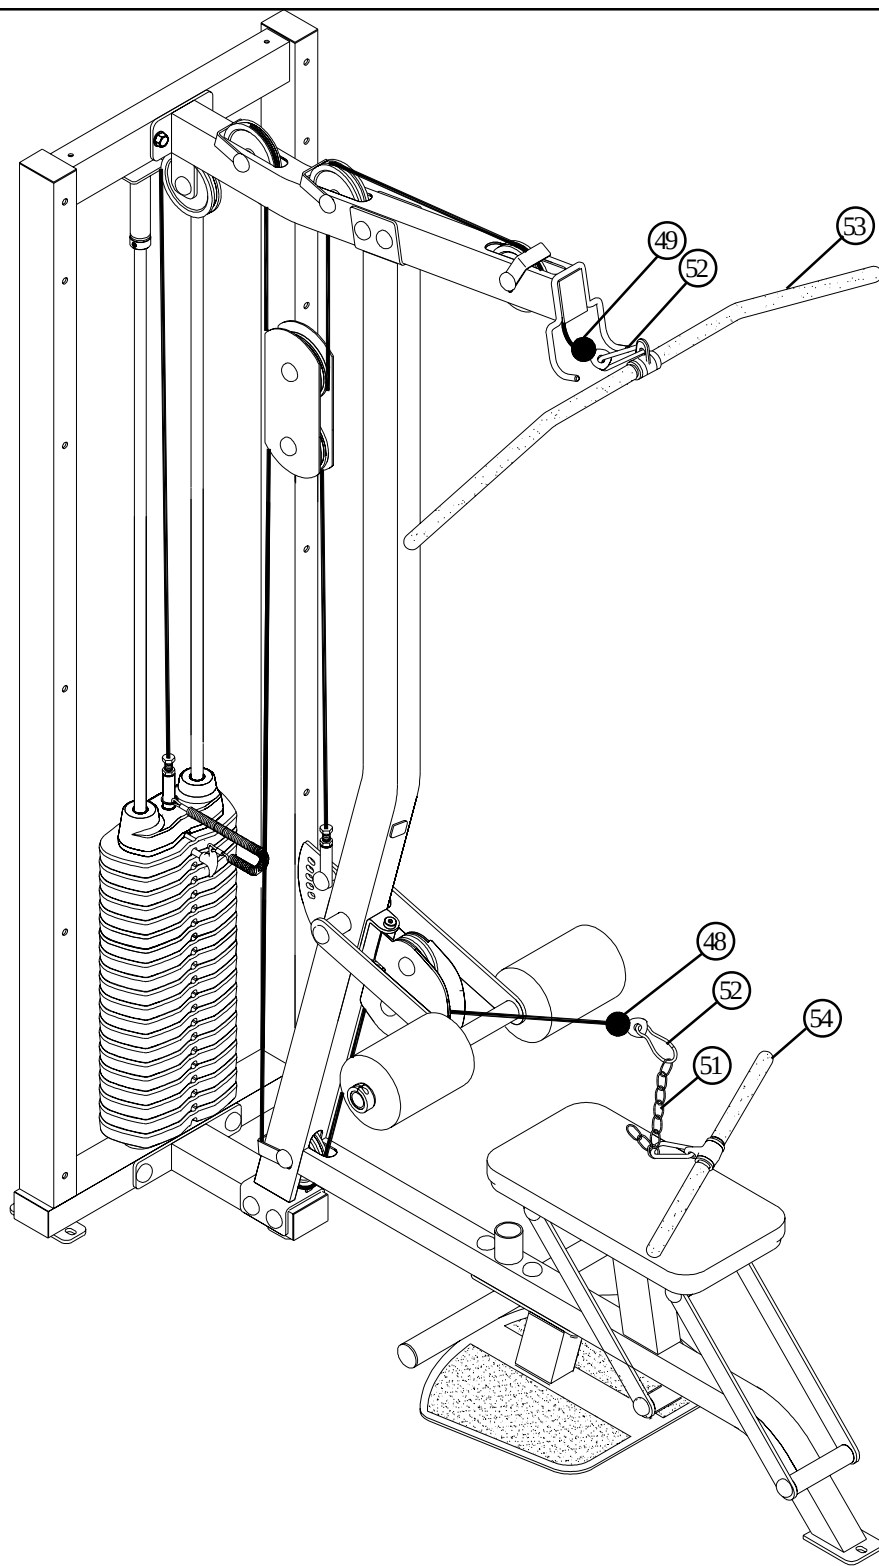

FIGURE 16
- Assemble the LOW ROW BAR (54) to the ROW CABLE (48) using two SNAP LINKS (52) and one 12-LINK CHAIN (51) as shown in FIGURE 16.
- Assemble the LAT BAR (53) to the LAT CABLE (49) using one SNAP LINK (52) as shown in FIGURE 16.